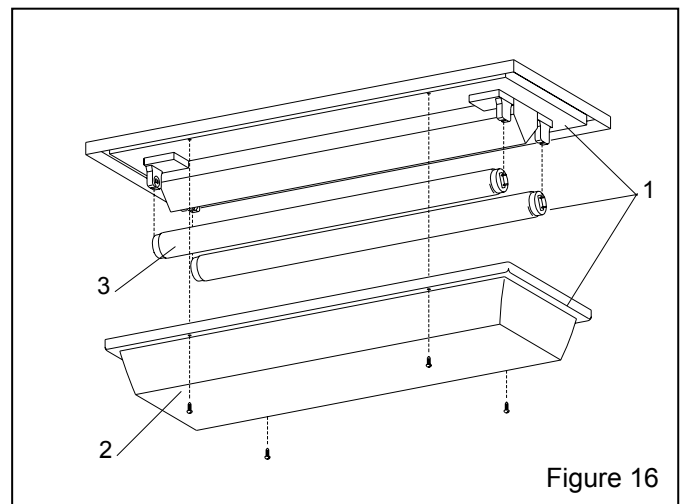

Figure 16
**9.3 Light Assembly, Figure 16**